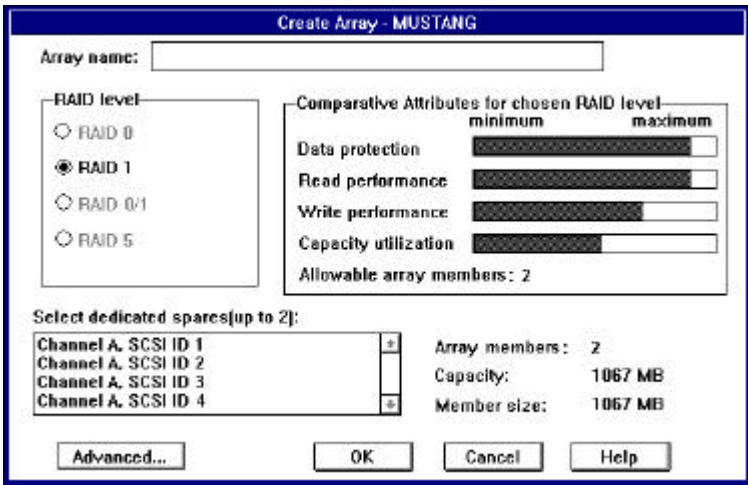

Figure 3-4: Create Array Dialog Box
4. Click **Create Array...** The Create Array dialog box appears, as shown in Figure 3-4.